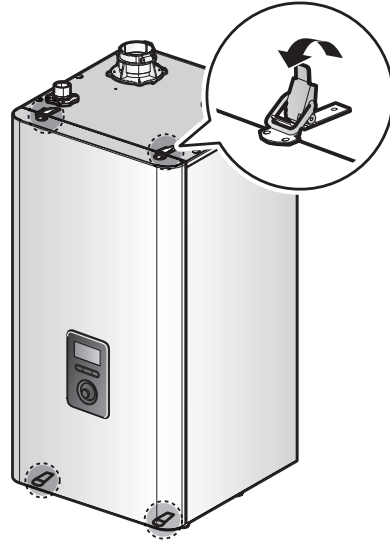

Figure 1. NFC-H Series Front cover
2. Unfasten the 4 latches (2 at the top and 2 at the bottom) to remove the front cover and gain access to the internal components. See Figure 1 for illustration of the front cover clamps.